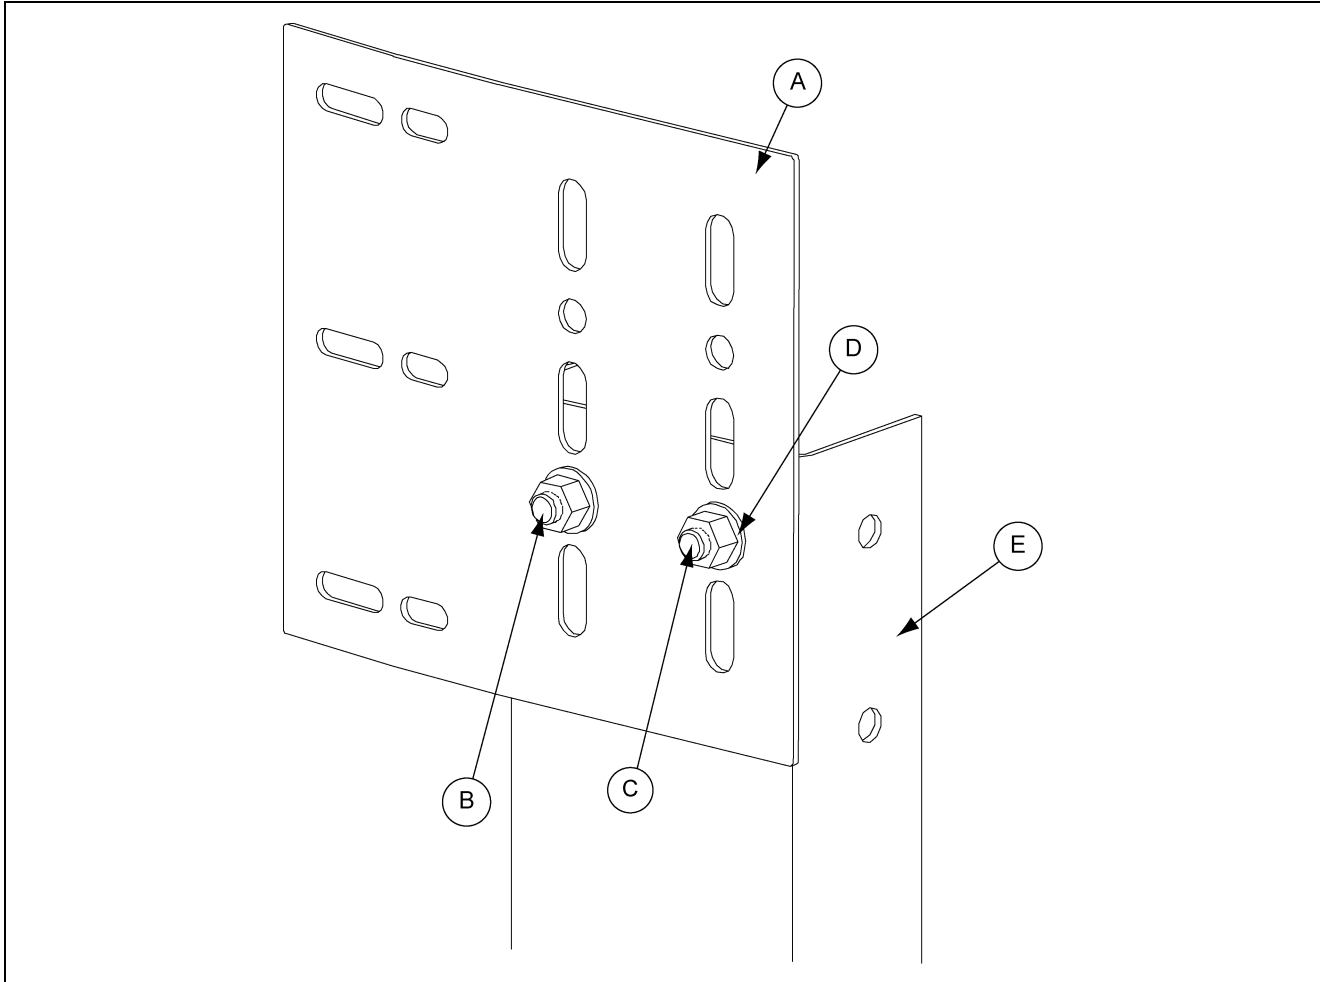

Figure 21
1. Align holes and attach lateral brackets (**STC00355**) to top of bottom columns using two (2) 1/2" x 1" bolts, two (2) 1/2" flat washers, and two (2) 1/2" hex nuts for each column. **NOTE:** *Bolt heads go to inside of column. Do not fully tighten bolts. (See Figure 21.)*